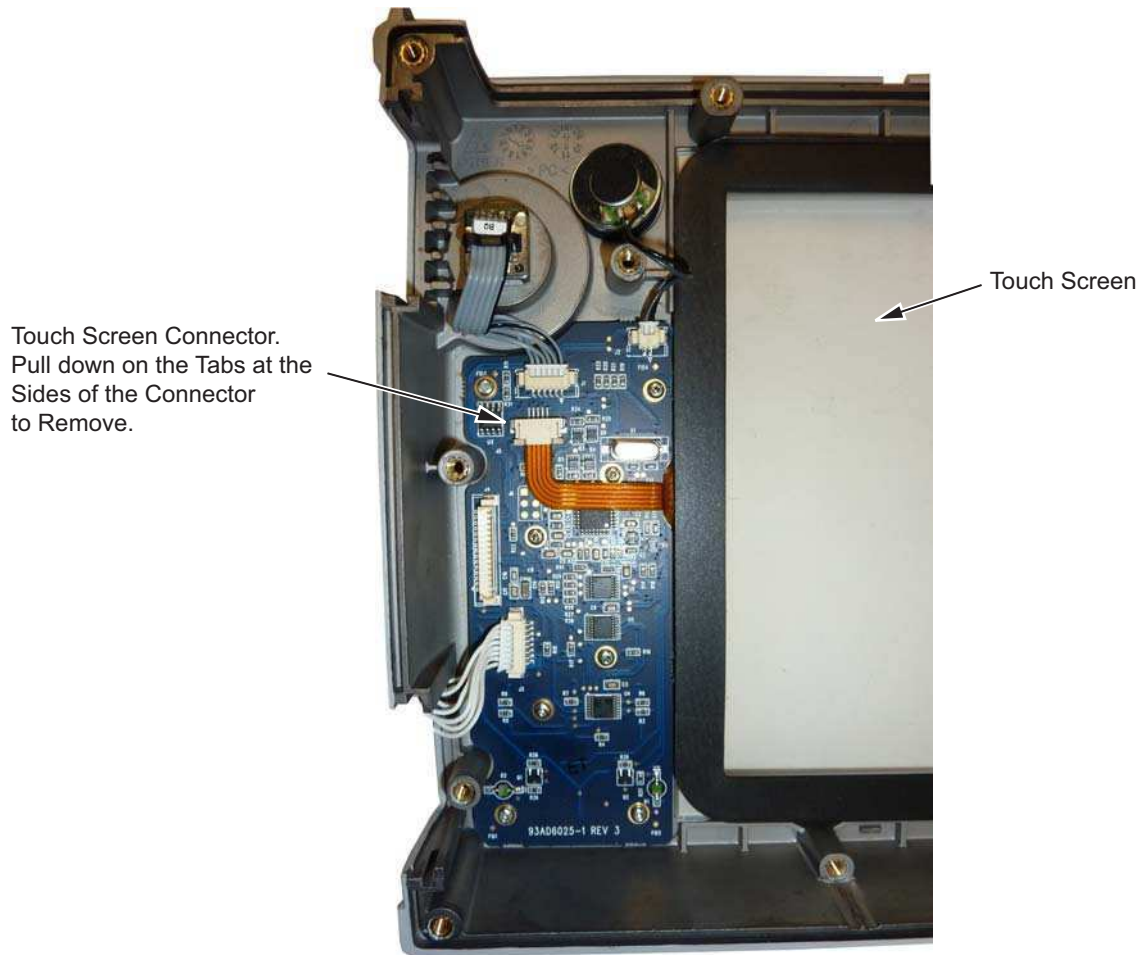

Figure 7-13. Replacing the Touch Screen
3. Remove the touch screen flex circuit connector from the Keypad PCB by pulling the tabs on each side of the connector away from the connector and in the direction of the flex circuit. Refer to Figure 7-13.